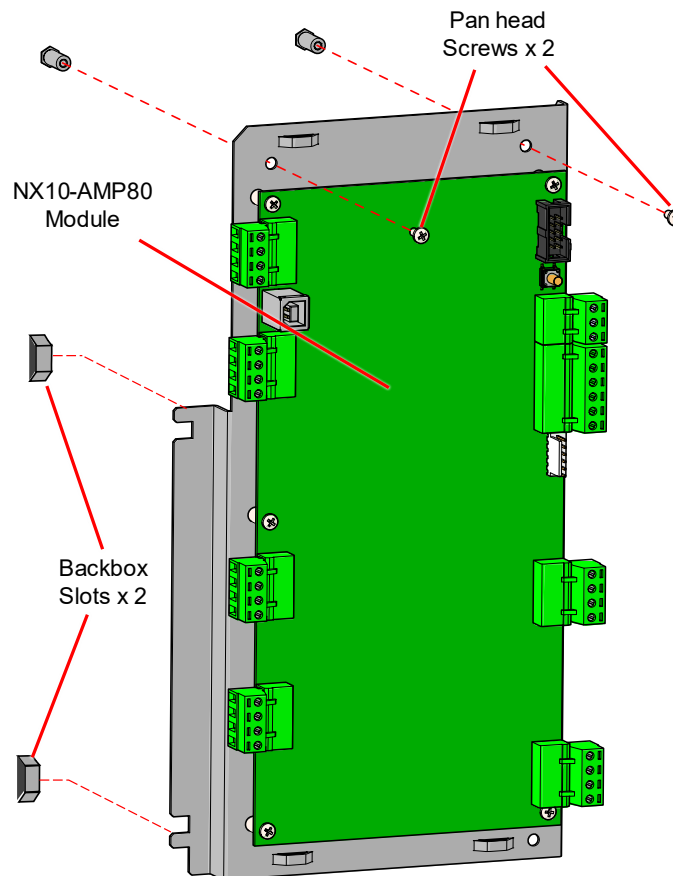

Figure 26 - NX10-AMP-80 Module Installation
2. Carefully slide the NX10-AMP-80 mounting plate tabs under the two left-side bottom tabs located in the backbox (Figure 26).
3. Position the mounting plate onto the two mounting posts and secure with the two (2) supplied panhead screws (Figure 26).